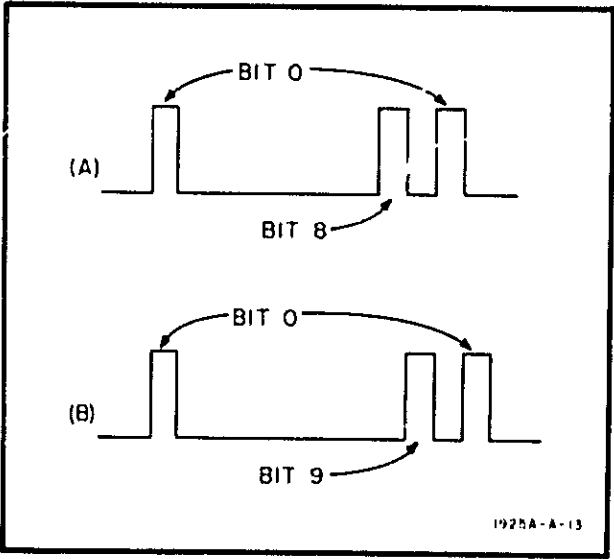

Figure 5-4. Word Length Check
g. See Figure 5-4 (A). A similar display should be observed on the oscilloscope CRT. The bit-number 0 pulse should follow immediately after the bit-number 8 pulse, indicating a nine-bit word length.
j. See Figure 5-4 (B). A similar display should be observed on the oscilloscope CRT. Bit-number 0 pulse should follow immediately after bit-number 9 pulse indicating a ten-bit word length.